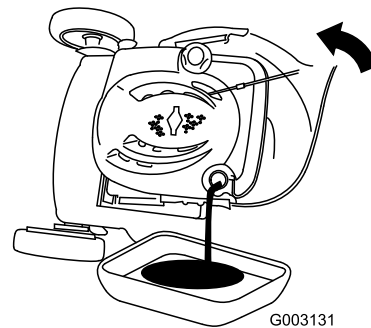

Figure 31
3. Tip the mower onto its side, with the air filter up, to drain the used oil out through the oil fill tube (Figure 31).